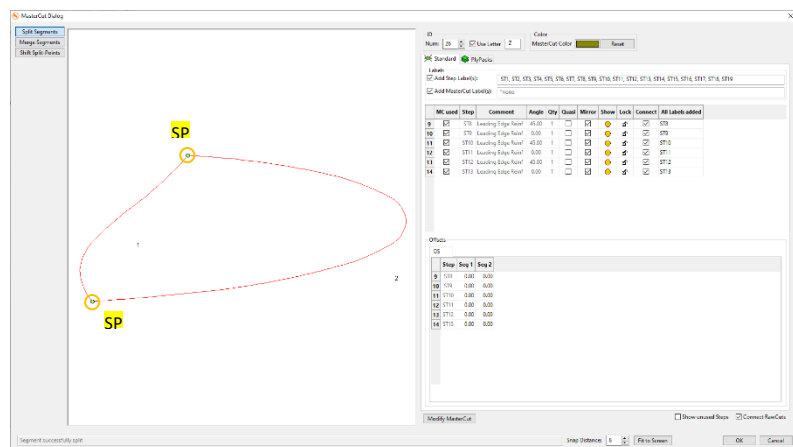

Figure 291
87. Next pick both corners (Figure 291). Click **OK** to confirm and leave the MasterCut Dialog.